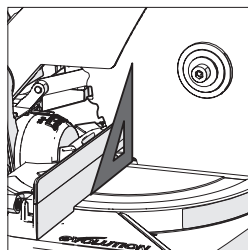

Fig. 9
- Place the set square on the table with one short edge against the table and the other short edge against the blade (avoiding the TCT tips of the blade teeth) (**Fig. 9**).